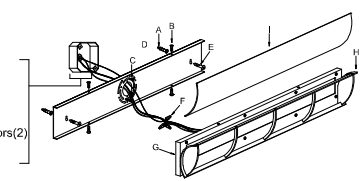

Fig.2
CONNECTION THE WIRES (Fig. 2)
6. At this point, connect the electrical wires as shown in Fig.2, making sure that all wire connectors are secured. If your outlet has a ground wire (green or bare copper), connect the fixture's ground Wire to it. Otherwise, connect the fixture's ground wire directly to the mounting plate using the green screw provided. After the wires are connected, tuck them carefully into the junction box.